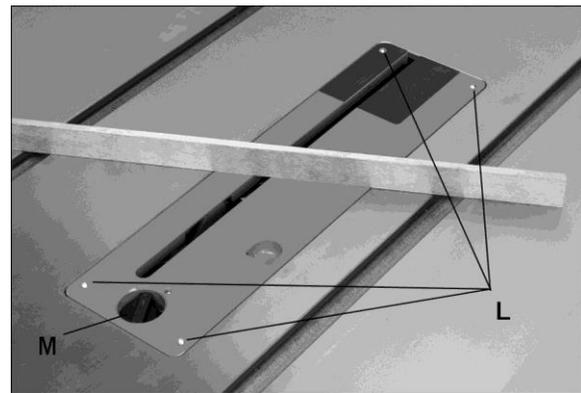

Figure 5-14
3. Remove table insert by rotating locking knob (shown at M, Figure 5-14) and lift up insert using finger hole.
See Figure 5-14.